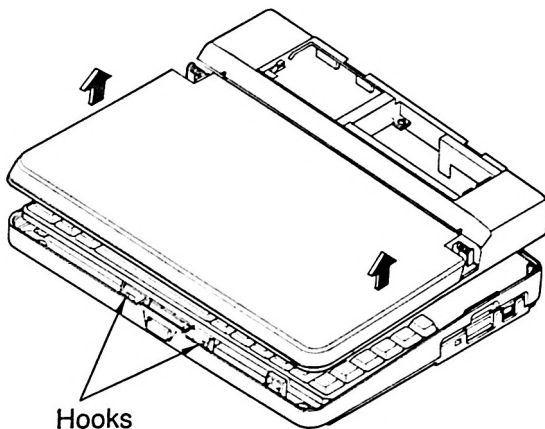

Figure 9
- (12) Gently lift up the top case as shown in Figure 9.